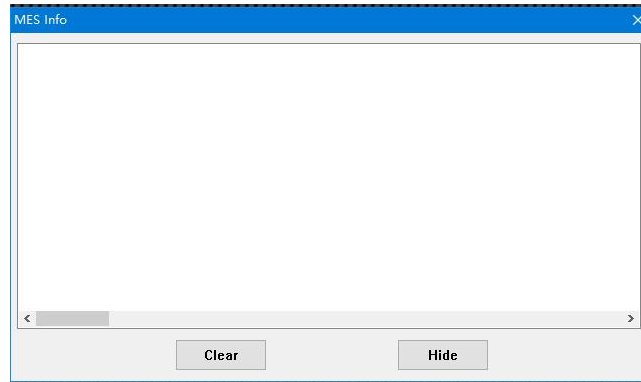

Figure 1-8 MES information
4. MES information: used to view software MES information, as shown in Figure 1-8.